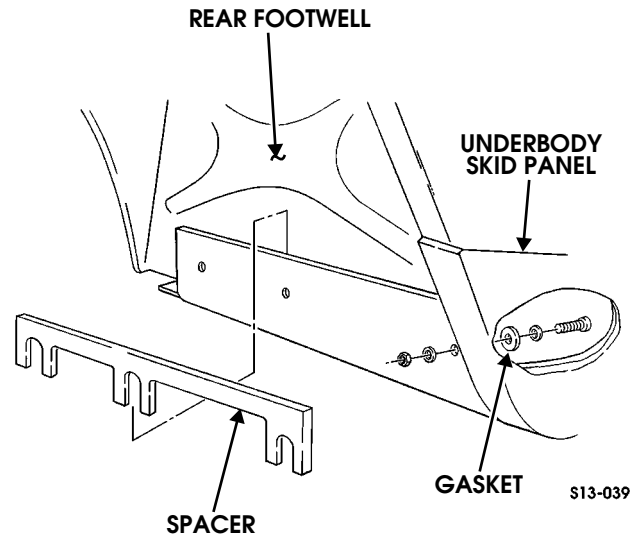

Figure 13-41: Rear Footwell
5. Remove three nuts, washers, bolts, washers, and gaskets securing spacer (if present) and skid panel to rear footwell (Figure 13-41).
2. Secure skid panel to rear footwell with three gaskets, washers, bolts, washers, and nuts. Do not tighten nuts (Figure 13-41).